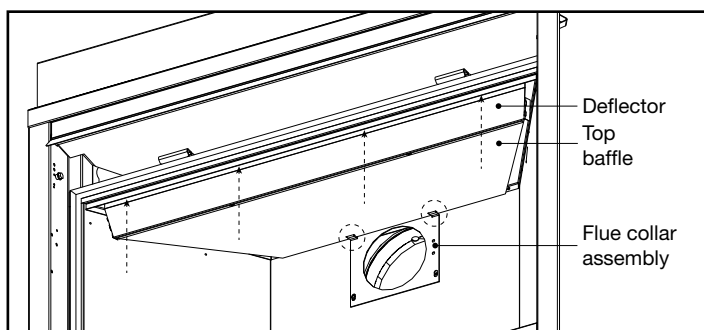

Fig. 4
- G. Replace the deflector. Rest the front edge of the top baffle in the four slots on the deflector. Rest the rear edge of the top baffle (complete with deflector) on the tabs of the flue collar assembly. Reattach the deflector (complete with top baffle) using the four screws removed in step C (**Fig. 4**). Install the log set, glass door and safety barrier.